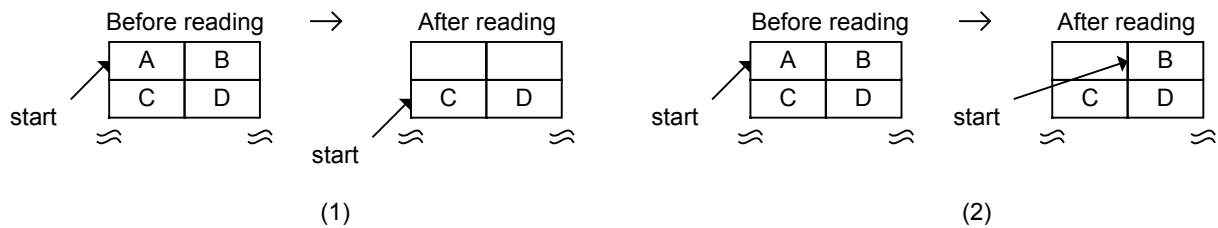

Figure 1-85 FIFO reading processing (normal operation)
Figure 1-85 (1) illustrates a case of word reading from a state without byte boundaries. Data A and B followed by data C and D are read out for each access. Figure 1-85 (2) illustrates a case of byte reading. Data is read out in the sequence A, B, C, and D for each access. These are the normal reading operations.